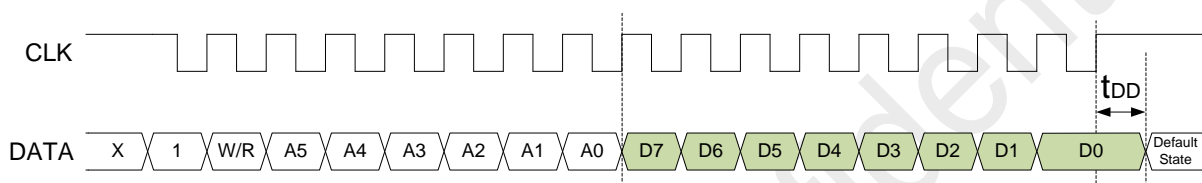

Figure 24. TWI W/R Timing Chart (Except for TWI\_RST Command)
5. The DATA pin is a bi-directional port, and it will be switched to output port in the last 8 clock cycle of a Read command. At this time, the host MCU should switch the corresponding port which is connected to the DATA pin to input port at the coming CLK rising edge, shown as dash line in the middle of Figure 24, so that there is no voltage conflict between the two ports and the read out function is correctly behaved.